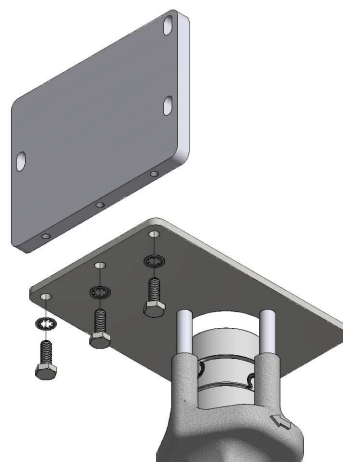

Figure 4: Actuator Mounting Bracket Installation
4. Using a 7/16" open-end wrench, the (3) 1/4"-20 x 3/4" hex head cap screws, and (3) 1/4" internal-tooth lock washers, fasten the actuator mounting bracket to the valve mounting bracket as shown below in Figure 4.